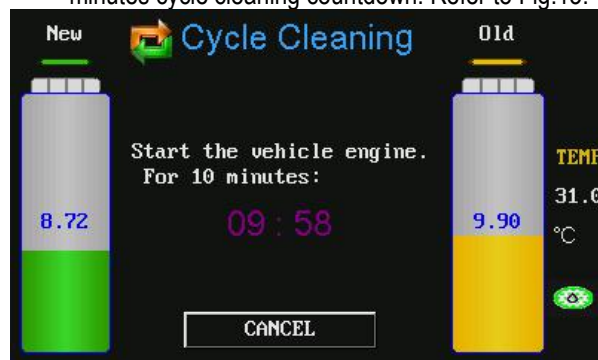

Fig.13
- 4) Print is completed or cancelled, will pop up 10 minutes cycle cleaning countdown. Refer to Fig.13.